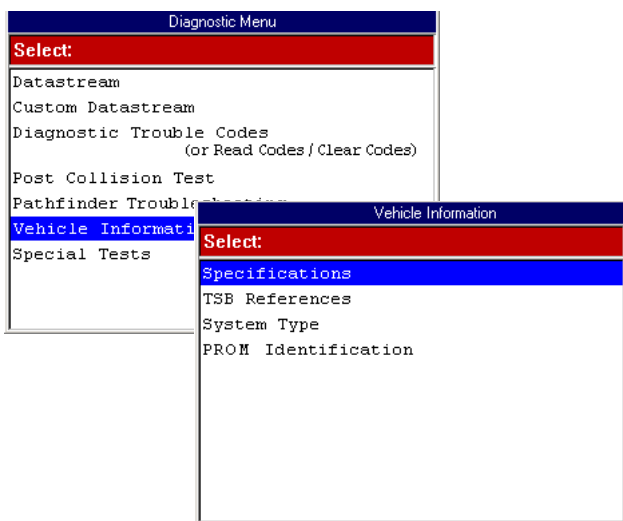

Figure 11.1: Diagnostic Menu Screen and Vehicle Info Screen
- 1 Follow the steps in Basic Procedure to display the Vehicle Info screen (see Figure 11.1).
- 1 Follow the steps in Basic Procedure on page 61 to display the Vehicle Info screen (see Figure 11.1).